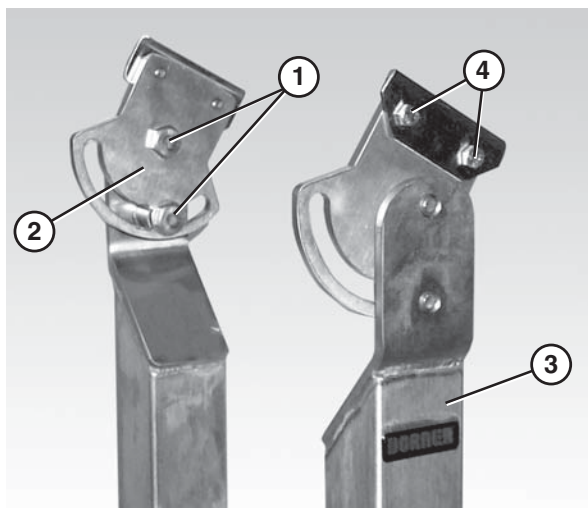

Figure 5
2. For slotted brackets, loosen the two bracket screws (**Figure 5, item 1**) and adjust the bracket (**Figure 5, item 2**) so that the top is at approximately the same angle as the conveyor. Do not tighten the screws.
3. Loosen the two M6 clamp plate screws (**Figure 5, item 4**) on each side of the stand (**Figure 5, item 3**).
5. Adjust the bracket angle on the slotted brackets (**Figure 5, item 2**) to match the conveyor angle and tighten the screws (**Figure 5, item 1**) to 50 ft•lb (72 N•m).